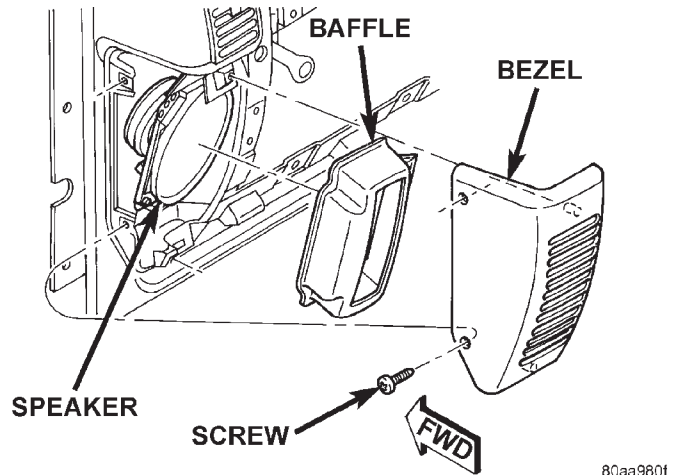

Fig. 5 Instrument Panel Speaker Bezel Remove/Install
- (1) Disconnect and isolate the battery negative cable.
- (2) Remove the two screws that secure the out-board end of the speaker bezel to the instrument panel (Fig. 5).